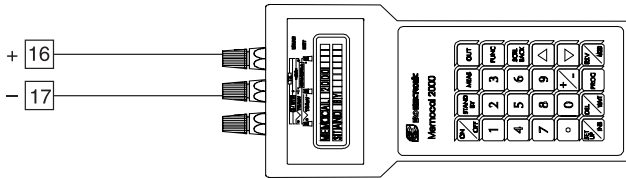

Fig. 13
- Connect the instrument under test to the calibrator as shown in Fig. 13.